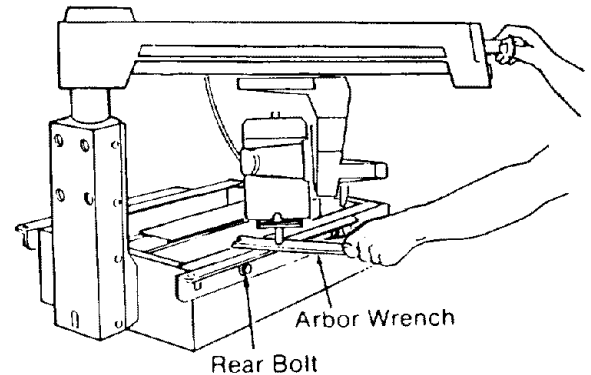

Fig. 60
6. Turn the *motor* until the *arbor shaft* is pointing straight down toward the *saw*. (Figure 60)
9. Unlock the *rip lock* and move the *motor* until the *arbor shaft* is over the left *table support*. (Figure 60)
11. Place the *arbor wrench* over this point and lower the *arm* until the *arbor shaft* is just touching the *wrench*. The *wrench* should slide back and forth with slight contact. (Figure 60)